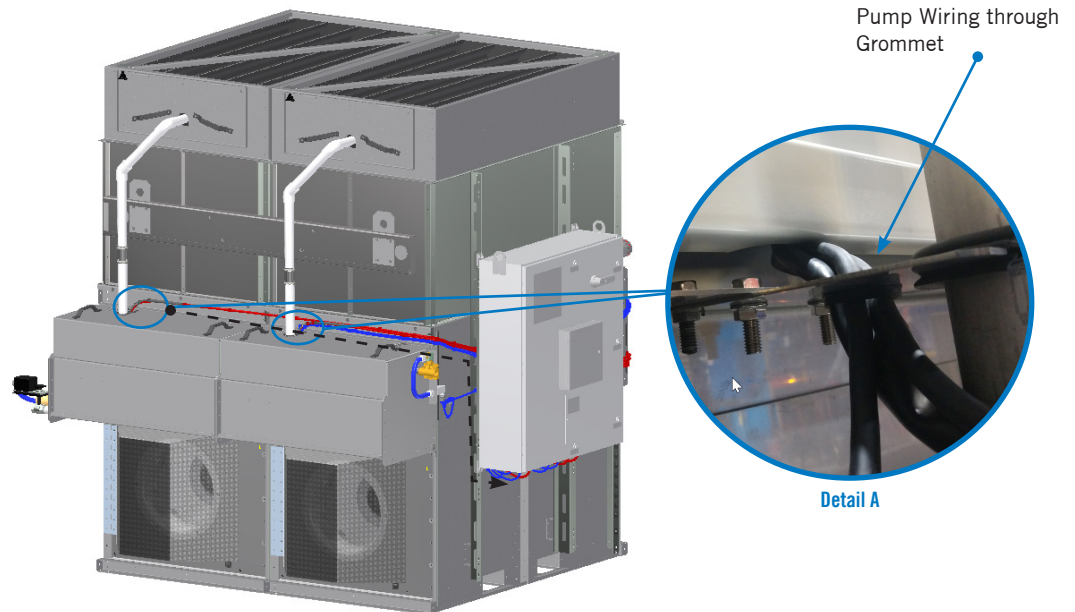

Figure 18. Pump Wire to the iPilot™ Control System Panel
8. Route pump wire through grommet at top of spray water basin. Follow wire path toward the control panel end. Pull pump wire through top oblong hole with edge trim on control panel mount channel. Pull each wire through individual cord grips at the bottom of control panel, then connect each wire to the correct terminal block. Please follow wire diagram located within control panel. See **Figure 18**.